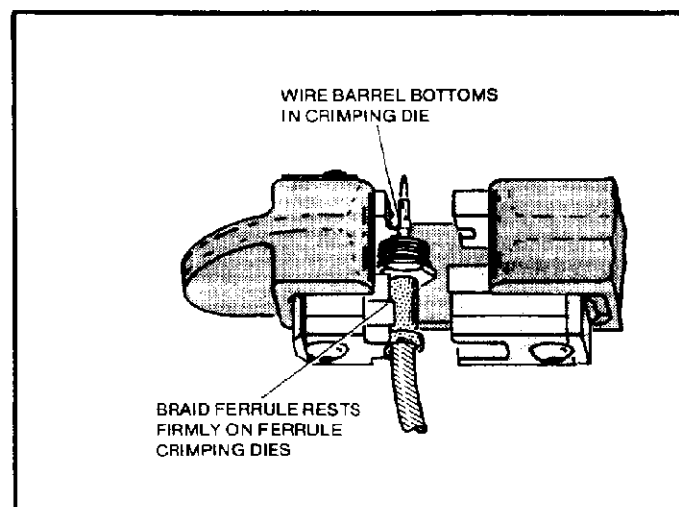

Figure 3
- Place the jack or plug crimp end, assembled on the stripped conductor, in crimping dies as shown in Figure 3.